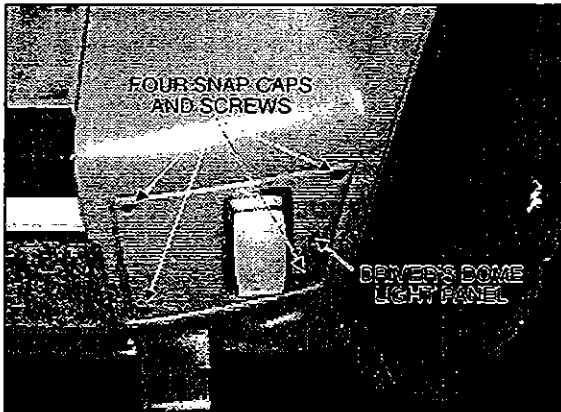

Figure 3: Driver's Dome Light Panel
2. From the driver's compartment, locate the driver's dome light panel (see fig. 3).